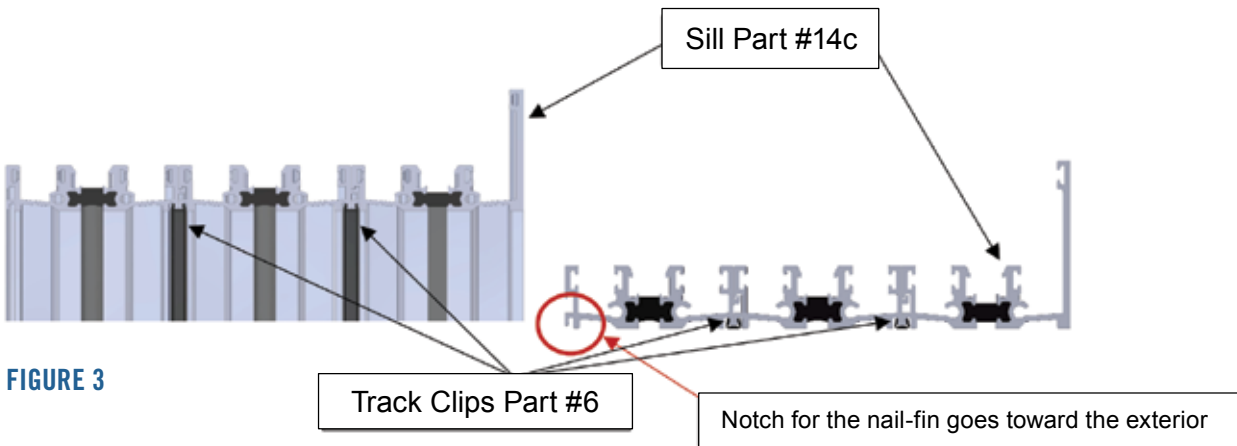

FIGURE 3
11. For frames with a standard sill (Part # 14a), use step 15 for installing frame. For a flush set sill installation (Part #14b), consult step 16. Apply several continuous beads of sealant across the bottom of the sill pan (enough to cover the entire contact area between sill pan and opening), and shim as needed under the sill pan to ensure level. Insert sill pan into the opening. Next, apply beads of sealant to the underside of the frame's sill, incrementally spaced between the weep channels as shown in Figures 1 & 2. (Sealant should conform to AAMA 802.3-16 and 803.3-16). Insert the frame into the opening as shown in Figures 2 & 3. Manipulate frame to achieve proper alignment. Shim around jambs and head, as necessary. Make sure the exterior and weeps are not covered with sealant to allow water in the tracks to weep out. After frame is installed, seal all four corners with sealant as shown in Figure 3.